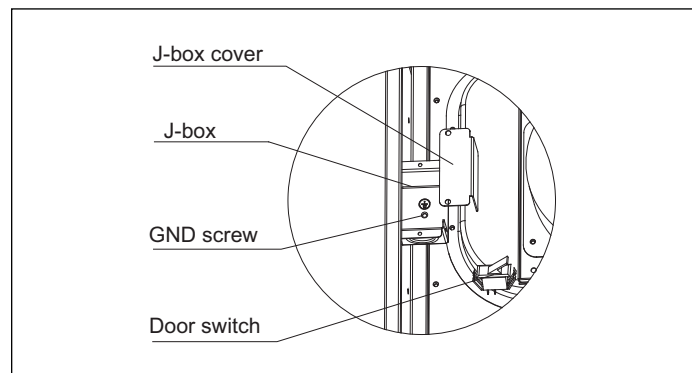
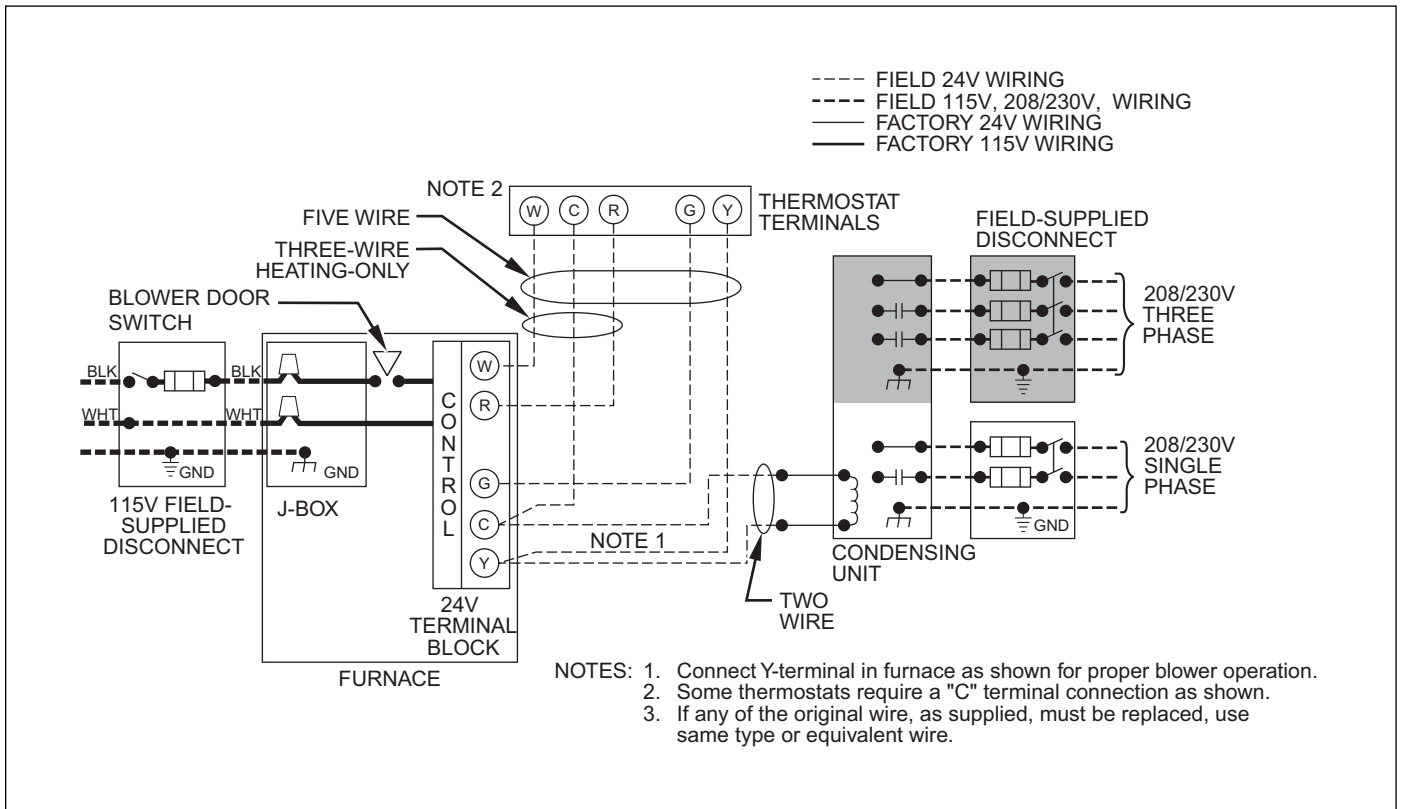

Figure 25 J-box
Figure 27 Heating and Cooling Application Wiring Diagram with I-Stage Thermostat
See Fig. 27, (page 30) for field wiring diagram showing typical field 115V wiring. Check all factory and field electrical connections for tightness. Field-supplied wiring shall conform with the limitations of 63°F (35°C) rise.
1. Remove and save two screws holding J-Box (See Figure 25).
5. Connect line voltage leads as shown in Fig. 27.
See Fig. 25 and Fig 27.
4. Remove and save two screws holding J-Box. (See Fig. 25.)
12. Complete electrical box wiring and installation. Connect line voltage leads as shown in Fig. 27. Use best practices (NEC in U.S.) for wire bushings, strain relief, etc.
Make field 24V connections at the 24V terminal strip (See Fig. 27.). Connect terminal Y as shown in Fig. 27 for proper cooling operation. Use only 18 AWG, color-coded, copper thermostat wire.
1. Maintain 115V wiring and ground. Improper polarity will result in rapid flashing LED and no furnace operation (See Fig. 27).
2. Make thermostat wire connections at the 24-V terminal block on the furnace control. Failure to make proper connections will result in improper operation (See Fig. 27).
Read and follow the wiring diagram (Fig. 27) very carefully.